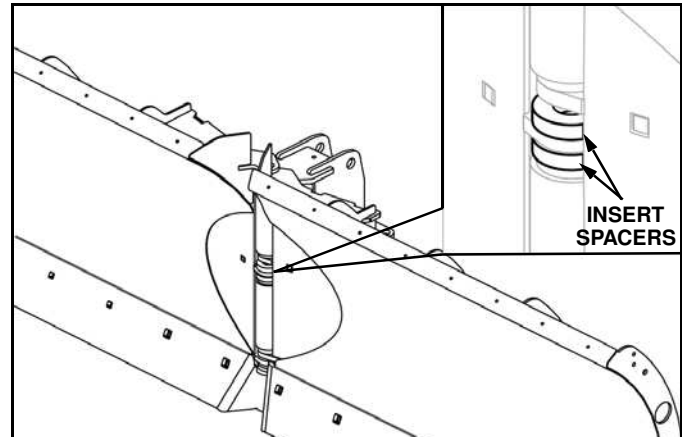

Figure 1-6
5. Insert one spacer (p/n 96112217) on top and one spacer below the tab on the PS blade section, between the pivot point of both blade sections and the A-Frame assembly. (See Figure 1-6).